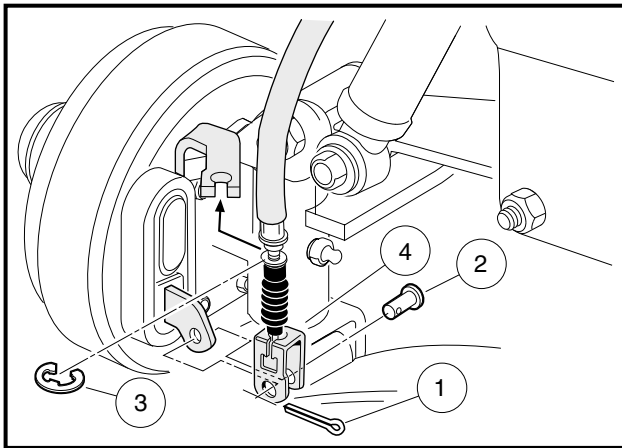

Figure 7-20 Connect Front Brake Cables
- 2.1. Remove the cotter pins (1), brake cable clevis pins (2), and cable retaining clips (3). Remove the brake cables (4) from the spindle brackets (**Figure 7-20, Page 7-17**).
7. Connect the front brake cables on four-wheel brake vehicle in reverse order of disassembly (**Figure 7-20, Page 7-17**).